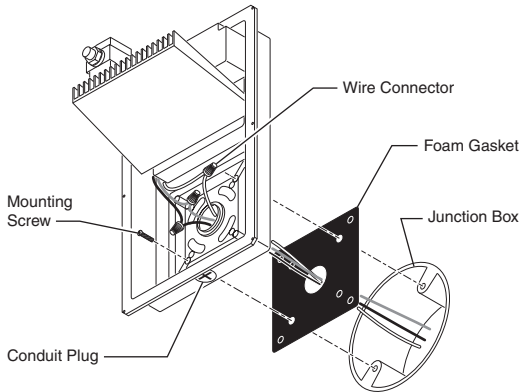

Figure 2
- Remove the paper backing on the foam gasket and press it against the back of the light fixture so the edges of the gasket line up with the inset area on the back of the fixture (Figure 2).
- Route the house wiring into the light fixture (Figure 2):
- Mount the light fixture (Figure 2):
- Connect the fixture wires to the house wires using the included wire connectors (**black to black, white to white, and green wire to house ground wire**). See Figure 2.